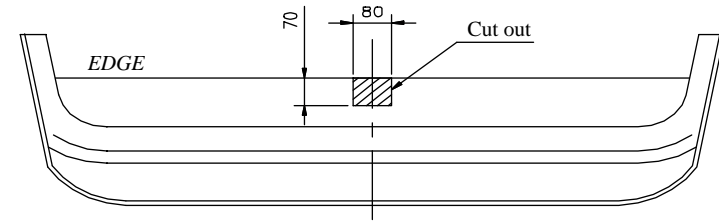

Fig. 2
2. In bottom part of the bumper cut out the hole as show in the fig. 2
4. Put bar of the towbar (pos. 1) into the chassis member and fix with bolts M10x35mm (pos. 6), use big washers  $\varnothing 30 \times \varnothing 10.5 \times 2.5$ mm (pos. 9).
5. Put brackets (pos. 4 and 5) to the rear piece and fix it through holes pos. A to the bar of towbar using bolts M8x30mm (pos. 7), use big washers  $\varnothing 24 \times \varnothing 8.4 \times 2$ mm (pos. 10).
6. Through holes (pos. B) in brackets (pos. 4 and 5) fix nuts M8 with big washers  $\varnothing 24 \times \varnothing 8.4 \times 2$ mm. Take care at the torque moment - **10 Nm**.
7. Through holes (pos. C) in brackets (pos. 4 and 5) make holes with drill  $\varnothing 9$ mm, and next fix with bolts M8x30mm (pos. 7).
8. Fix body of the automat and place tow-ball according to supplied instruction. Note! Remember to place socket plate (pos. 3) as shown on the drawing 1.